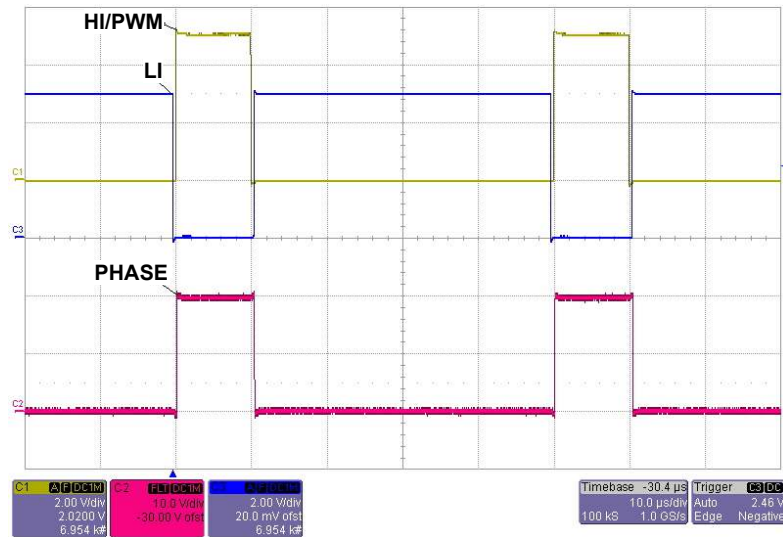

Figure 8. HI/PWM, LI, and Phase Signals
- (2) Connect an additional scope probe to the Phase test point on the mother board. Set the vertical gain to 10V/Div and the time base to 10 $\mu$ s/Div.
- (3) Connect 5V supply to VCC and set the output to OFF
- (4) Connect the bridge power supply to the VBAT\_GND terminal block (TB1).
- (5) Starting with an initial output of 20V and a current limit of 200mA, turn on the bridge supply.
- (6) Turn on  $V_{CC} = 5V$ .
- (7) Measure 12V  $\pm$ 5% on the VDD pin of TB6 relative to the GND pin.
- (8) Press the Reset button. The four LEDs flash one after another, and then turn off.
- (9) Press the Start/Stop button. LED0 is flashing and HI/PWM and LI signals are active.
(10) Turn the potentiometer CW until the waveform shown in Figure 8 appears.